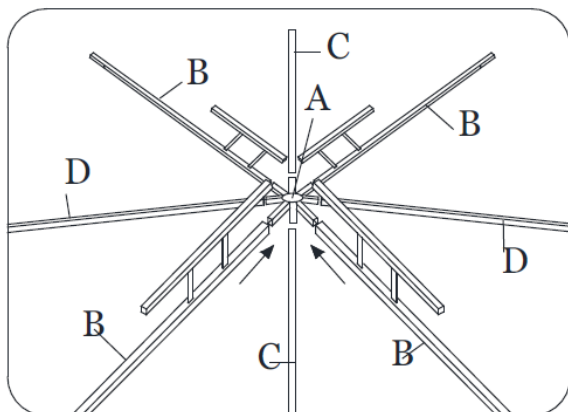

Figure 6
Step 1: Insert the “Push Button” end of the Long Corner Roof Support (B) to the Center Roof Connector (A) until “Push Button” locks. See Figure 6. Align the opposite end of the Corner Roof Support (B) with the Small “U” Bracket (K) on the Corner Posts (J).